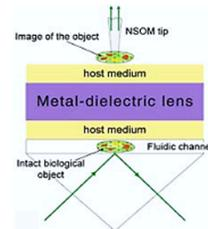

Fig. 2: Application for composite NFSL designs: Non-contact bio-molecule probing
- **Second Application: Non-Invasive Intra-Object Imaging** (fig. 2)